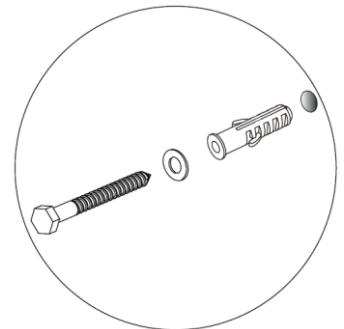

Fig. 3
- Position the wall mount bracket (5) against the wall and use it as a template to mark the drilling positions. It is recommended that the lower mounting holes are approximately 80 cm above the floor.
- Insert the plastic anchors into the holes, then securely fasten the wall mount bracket using the supplied bolts and washers (see Fig. 3).
- Hang the hose reel onto the wall mount bracket and secure it by inserting the mounting tube (7).
- Connect the inlet hose (6) to the water supply.